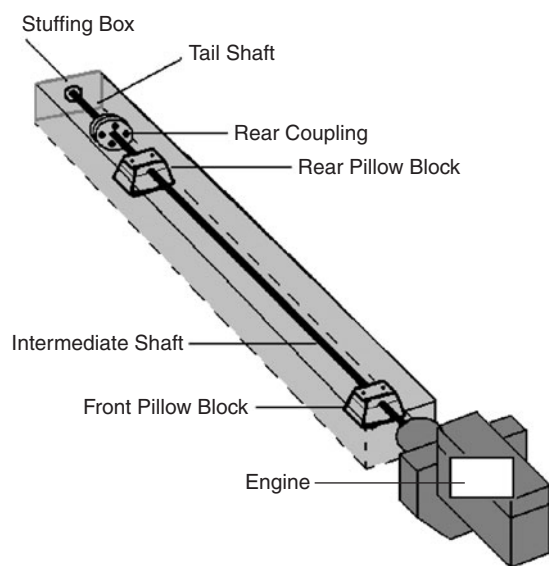

Fig. 17-5. The contents of a shaft alley.
6. The intermediate shaft has to be straight (Fig. 17-5). Most often this shaft, being somewhat protected from the elements by the shaft alley, is steel rather than stainless steel.